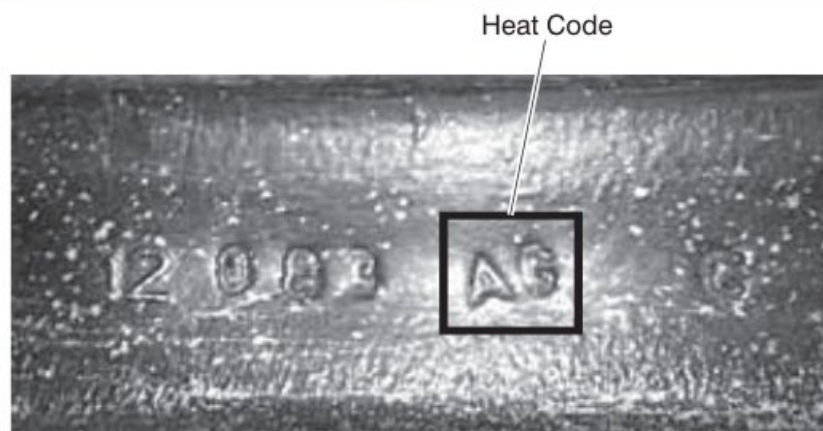

Figure 2
2. Ensure the heat code is “**AG**”, as shown in Figure 2.